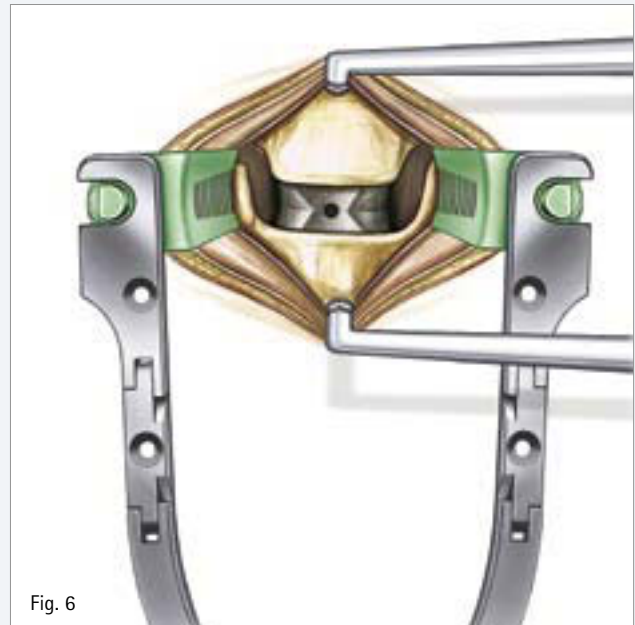

Fig. 6
- The CeSPACE[®] implant should be inserted centrally in AP direction leaving a distance of approximately 1-2 mm to both the anterior and posterior rim (Fig. 6).